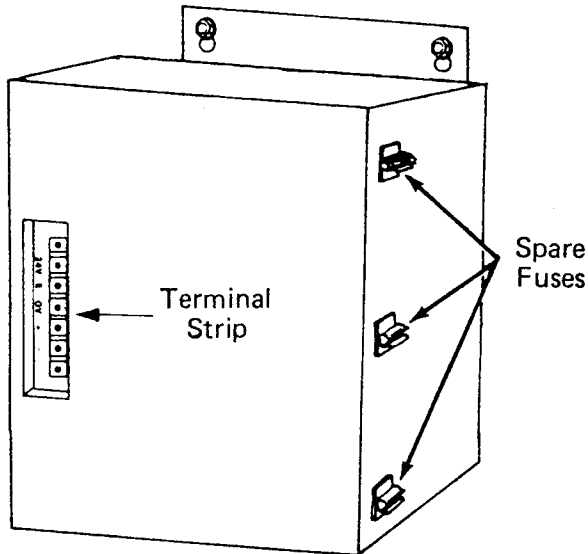

FIGURE 1 — EPSA-104
01.01 The EPSA-104 is equipped with a built-in wall mounting bracket, as shown in Figure 1, to allow it to be mounted on a wall or other flat, vertical surface.